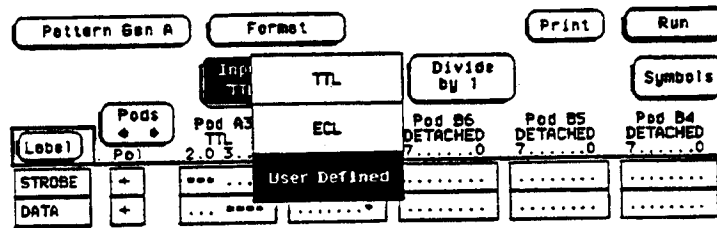

Figure 4-7. User Defined Field
h. Touch Input, then touch User Defined. See figure 4-7. Set level to +9.9 Volts, then touch Done.